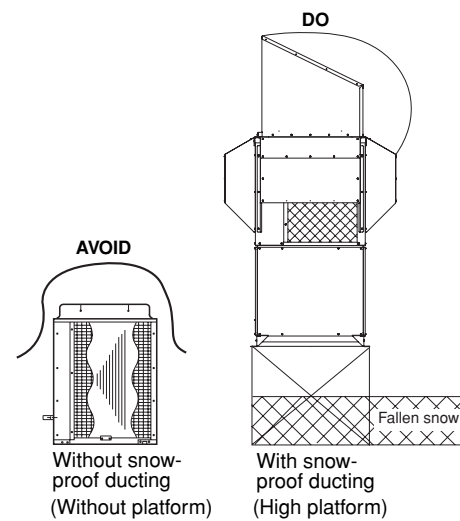

Fig. 2-9
**In regions with heavy snowfall, the outdoor unit should be provided with a solid, raised platform and snow-proof ducting (field supply). (Fig. 2-9)**
- a) The platform should be higher than the maximum snow depth. (Fig. 2-9)